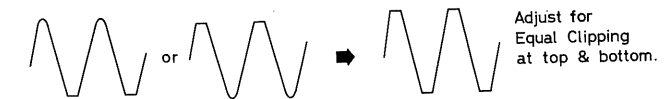

Figure 1
5. Connect AC power cord and rotate Volume Control clockwise - full volume. Increase generator output until sine wave on scope just starts clipping. Adjust DC Balance Control VR601 (on Main Amp. Circuit Board) for equal clipping on the positive and negative half cycles of the signal (see Figure 1).